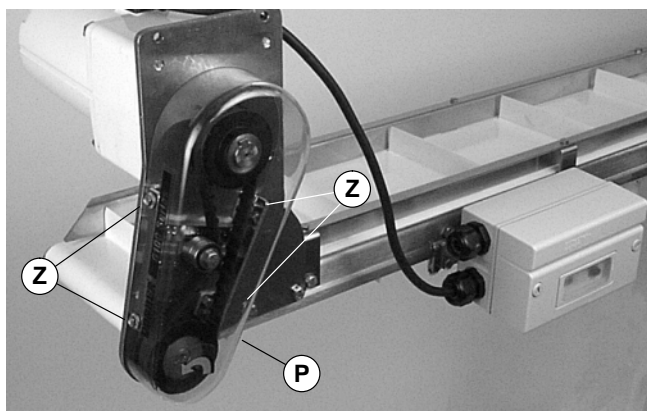

Figure 13
1. Loosen four (4) screws (Z of Figure 13) and remove cover (P).
**NOTE:** Do not over-tighten screws (Z of Figure 13).
6. Replace cover (P of Figure 13) and tighten four (4) screws (Z) to 35 in-lb (4 Nm).